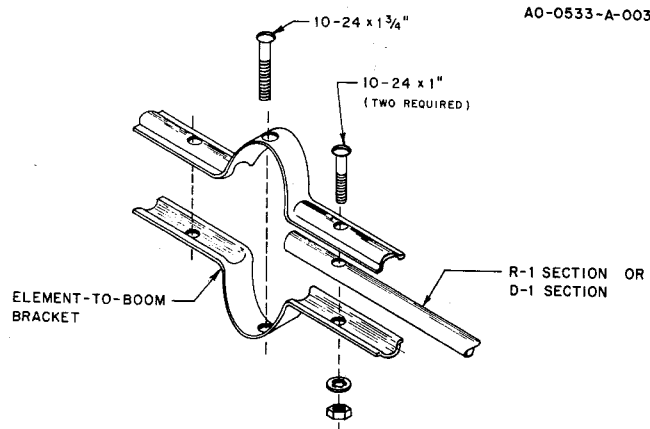

Figure 3. Element-to-boom detail
**Element-to-Boom Bracket Assembly** Select the two sets of small element-to-boom brackets and mount them on each end of the boom in the pre-drilled holes using 10-24 x 1-3/4" screws, nuts, and lockwashers as shown in Figure 3.
( ) Select the two R1 sections (7/16'' x 57-1/2'') and slip the end with a hole drilled through both walls into the element-to-boom bracket that you just installed on the end of the boom (long end). Fasten securely using two 10-24 x 1'' screws, nuts, and lockwashers. See Figure 3.